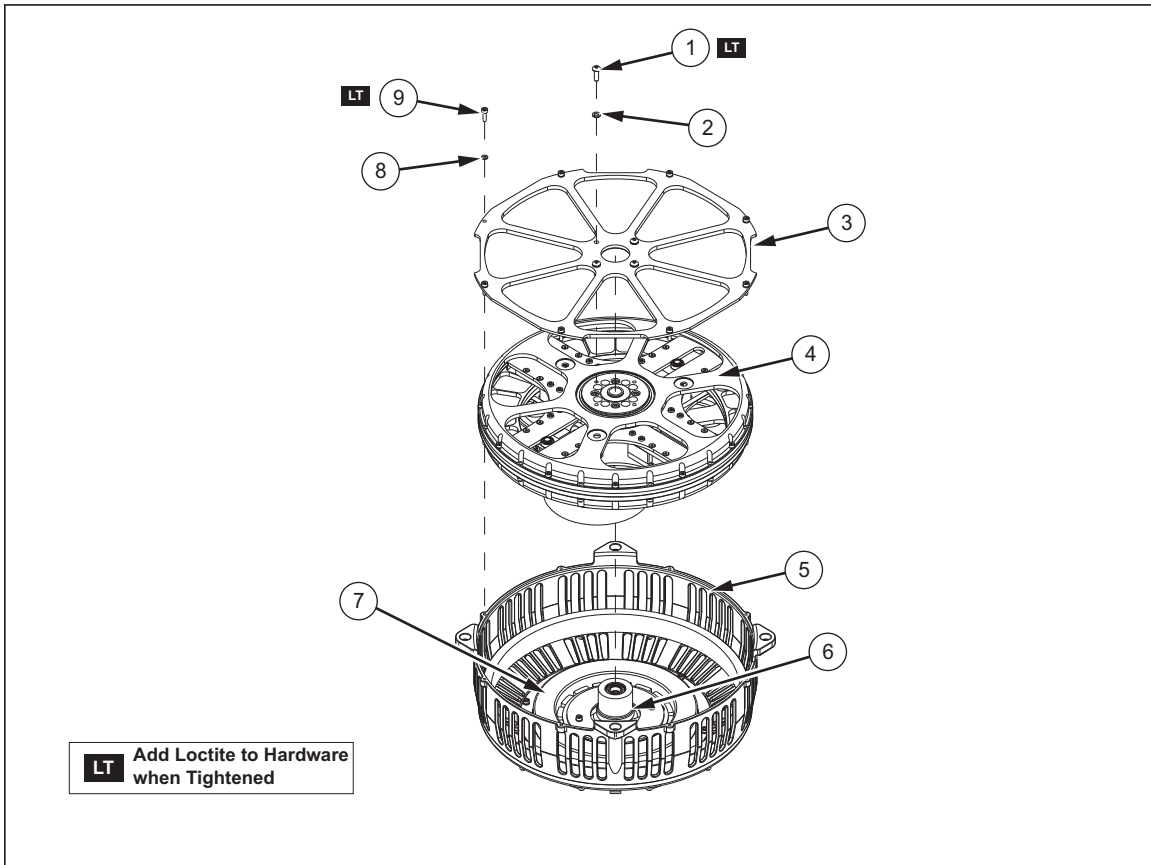

Figure 5-5. Pump Cam Assembly Removal
2. Remove the eight outer screws (⑨) and lock washers (⑧) which secure the upper-shaft mount plate (③) to the booster pump assembly housing (⑤), and remove the four inner screws (①) and lock washers (②) which secure the plate to the cam assembly (④) as shown in Figure 5-5.
3. Remove the lock washers which are located between the upper-shaft mount plate (③) and the booster pump assembly housing (⑤).
Use the following instructions and Figure 5-5 to reinstall the pump cam assembly (④) into the booster pump assembly (⑤):
1. Put the pump cam assembly (④) on a 5-inch support block on a flat-work surface with the pressure shaft and planetary gears positioned upwards.
3. Slowly lower the booster pump assembly (⑤) onto the pump cam assembly (④). Align the planetary gears with the sun gear (⑥) and the outer gear ring (⑦).
5. Put the upper-shaft mount plate (③) on the top of the booster pump assembly housing (⑤), being sure to first place lock washers between the plate and the booster pump housing. The milled lip faces down towards the cam assembly.
6. Install the four inner 3 mm screws (①) and lock washers (②) to secure the upper shaft mount plate (③) to the upper shaft bearing hub.
7. Place the sheet metal cover plate over the top and install the eight outer screws (9) and lock washers (8) securing both the sheet metal cover and the upper shaft mount plate to the pump assembly housing.